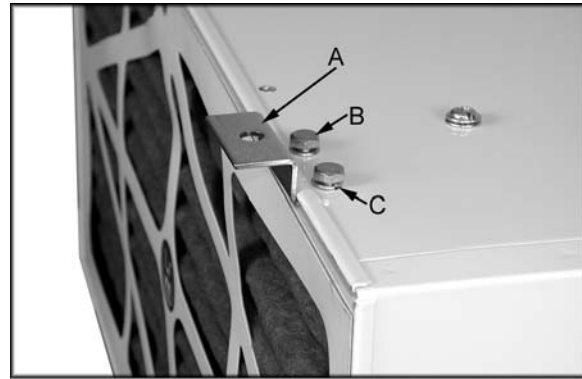

Figure 2
- Attach the bracket (A, Fig. 2) with two hex cap screws (B, Fig. 2) and two lock washers (C, Fig. 2).